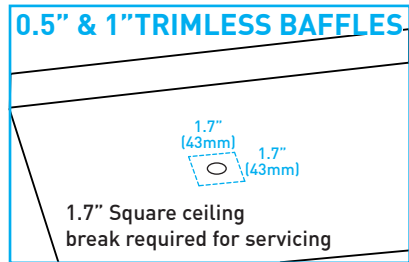

Fig.21
**Note:** Trimless 0.5" and 1" apertures require a 1.7" square ceiling break to service baffle, optic, LED, and driver *(Fig.21)*.